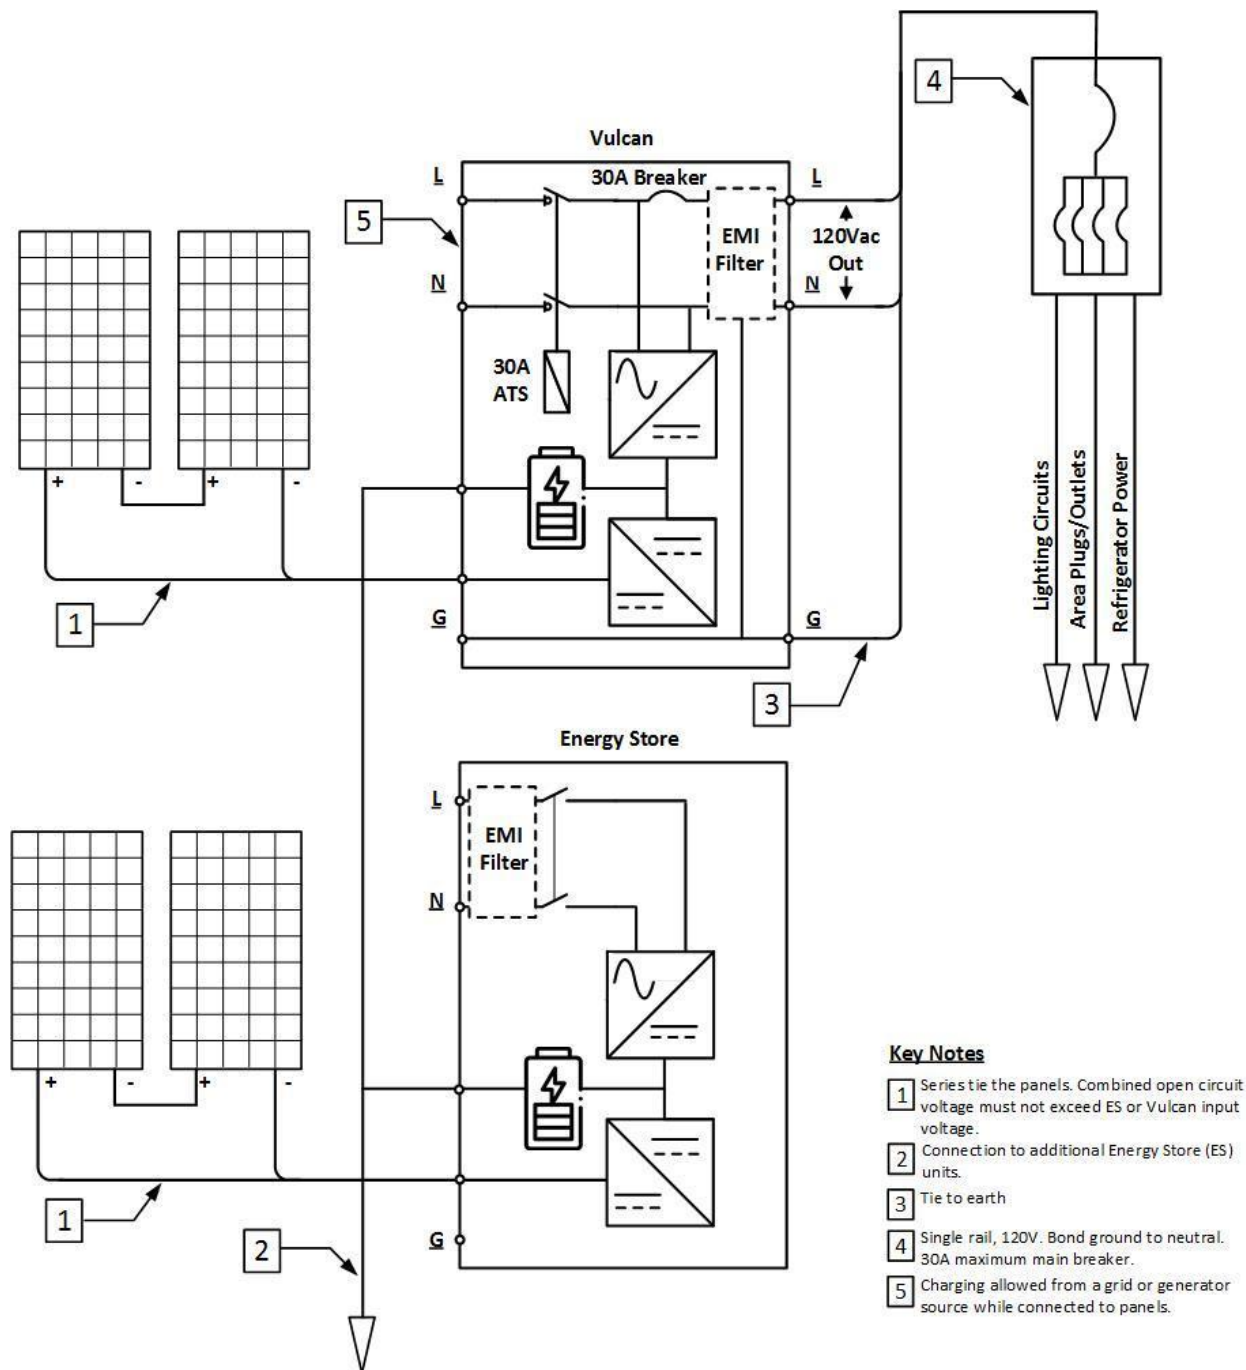
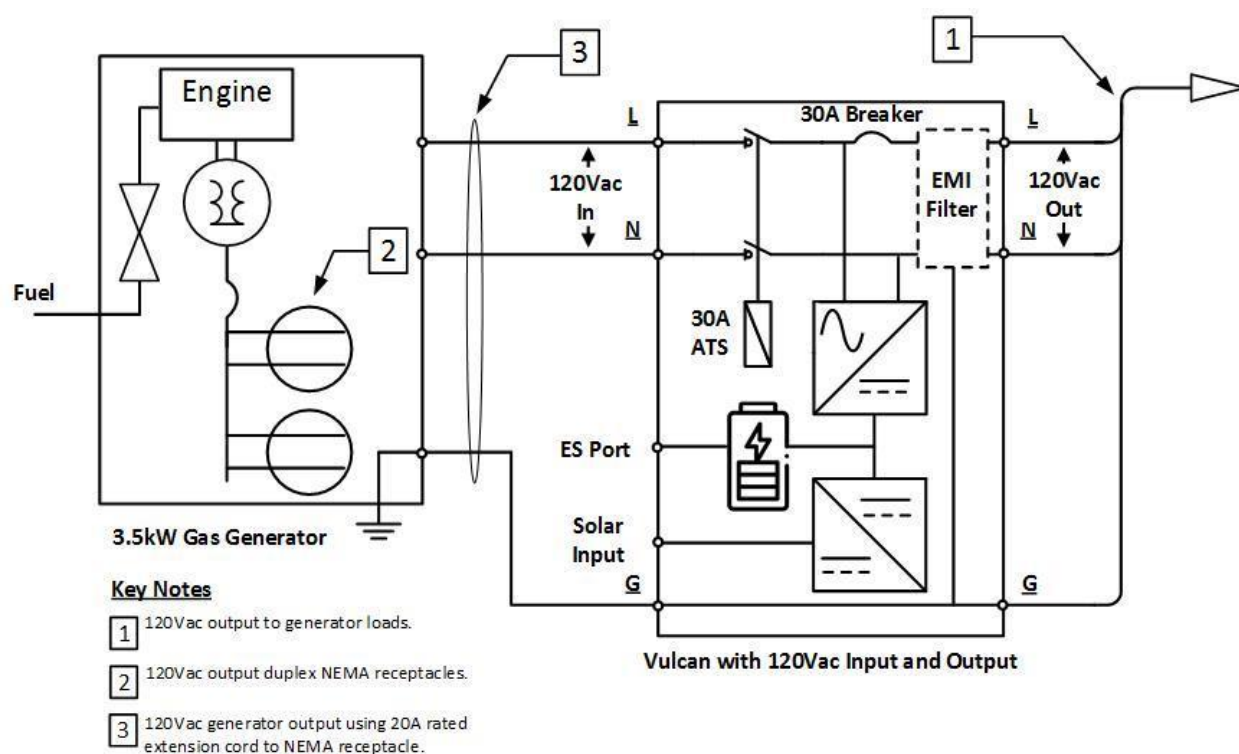

Figure 7. Example solar powered Vulcan system with an electrical panel tie in.
Figure 10. Generator firming to conserve fuel reserves.
Figure 7., illustrates a schematic recommendation for an off-grid Vulcan system with power tied into a circuit breaker protected distribution panel. Using one (1) Inverter-Charger and two (2) Energy Stores, the illustrated system in **Figure 7.** will adequately power the example listed above.
Firming up a generator fuel supply means guaranteeing energy from other sources to conserve fuel. Vulcan can work in conjunction with a gasoline generator as a hybrid solution to simultaneously pass through AC voltage from the generator to run the generator loads and charge batteries, **Figure 10**. When the battery reaches 100%, the generator is no longer needed and can be shut down to conserve fuel reserves. This configuration provides better power quality through its EMI Filter and voltage sag protection. It can also incorporate solar panels as illustrated in **Figure 7**. for a fully renewables supported hybrid power system.